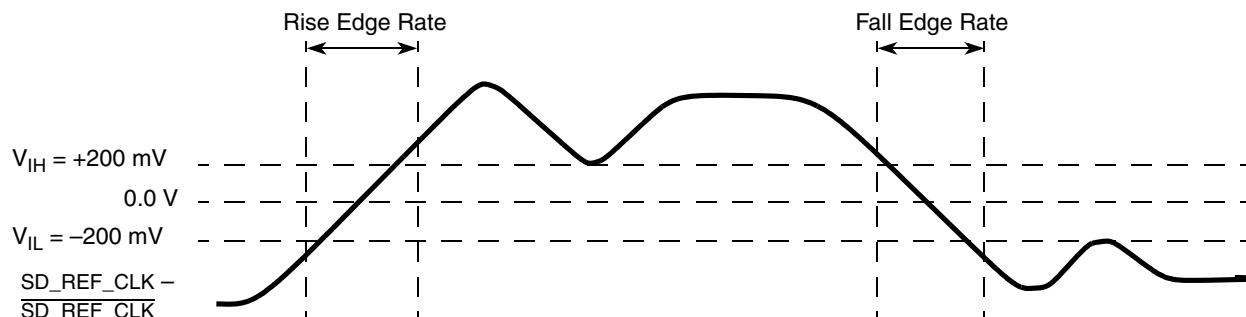

Figure 43. Differential Measurement Points for Rise and Fall Time
The differential waveform is constructed by subtracting the inverting signal ($\overline{SD_TX}$, for example) from the non-inverting signal (SD_TX , for example) within a differential pair. There is only one signal trace curve in a differential waveform. The voltage represented in the differential waveform is not referenced to ground. See Figure 43 as an example for differential waveform.
- Measured from -200 mV to +200 mV on the differential waveform (derived from $\text{SD}_\text{REF}_\text{CLK}$ minus $\overline{\text{SD}_\text{REF}_\text{CLK}}$). The signal must be monotonic through the measurement region for rise and fall time. The 400 mV measurement window is centered on the differential zero crossing. See Figure 43.